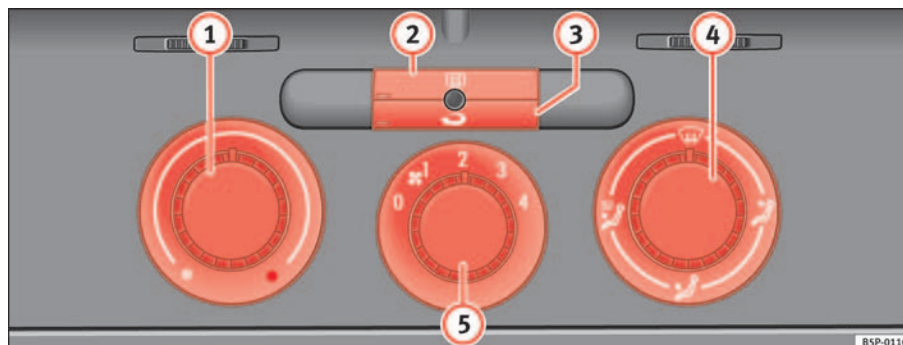

Fig. 121 On the dash panel: Heater controls
- Using the controls ⇒ fig. 121 ① and ④ and the control ⑤ you can set the temperature, air distribution and the air flow.
- To switch a function on or off, press the appropriate button ② or ③. When the function is activated, the display window in the lower left of the button is lit.